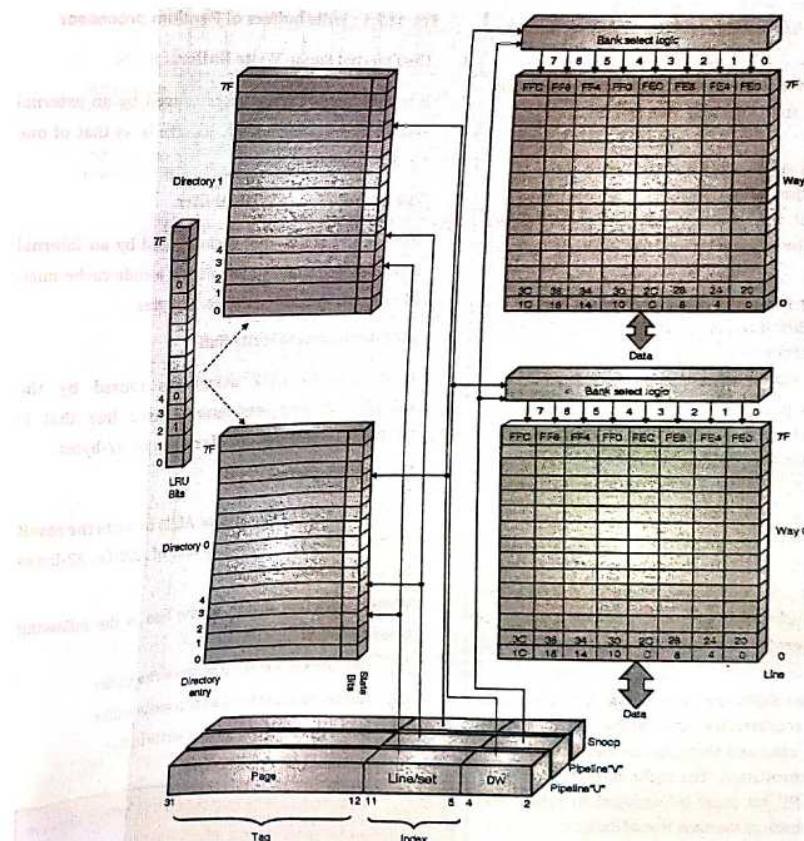

Fig. 13.6.2 : L1 Data cache structure
- The Fig. 13.6.2 shows the internal structure of L1 data cache.